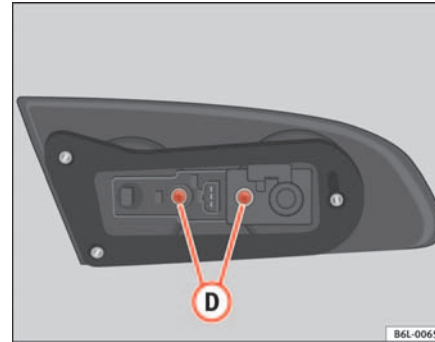

Fig. 156 Access to the lamp
- Unscrew the bolts **(D)** ⇒ fig. 156 and remove the lampholder.